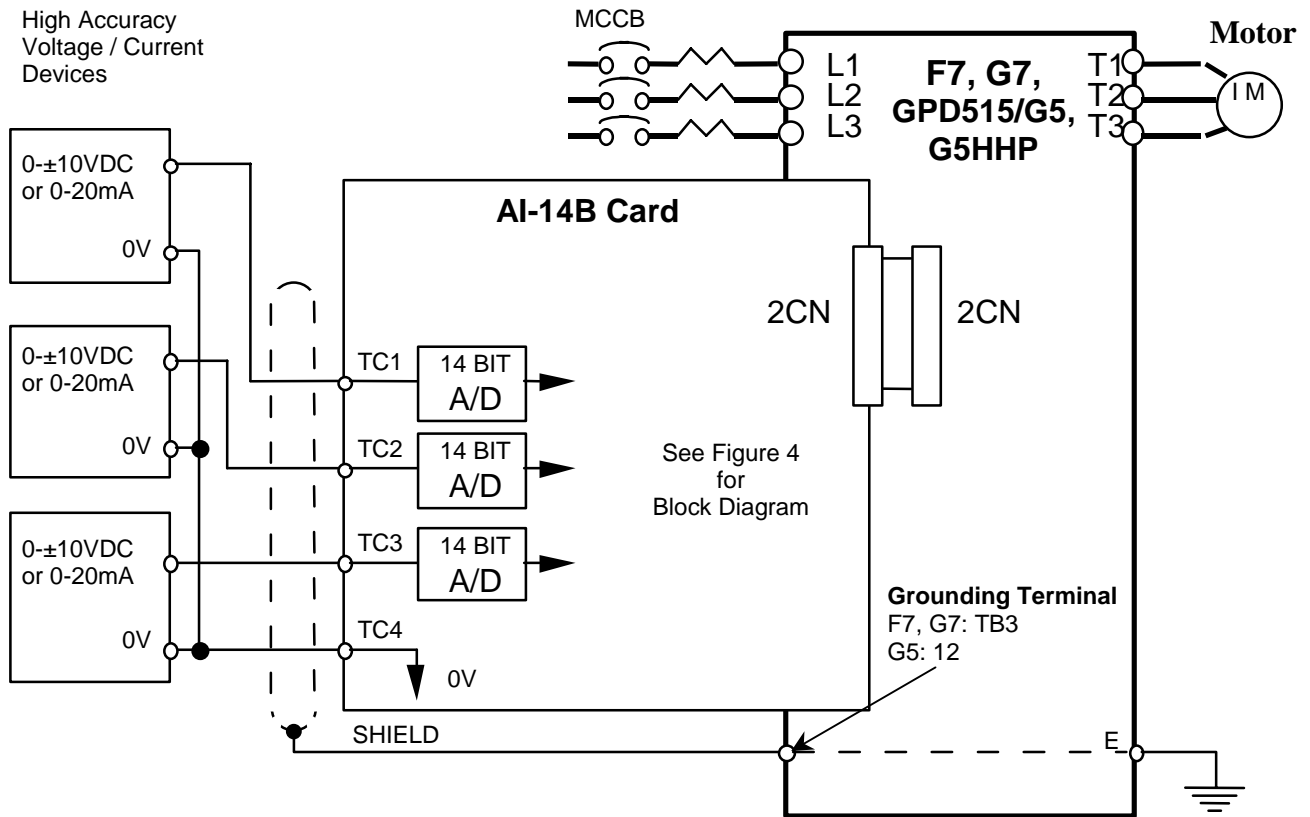

Figure 3. AI-14B Interconnection Diagram
6. **Wiring:** Refer to Figure 3 and Tables 1 & 2. Make wire connections between the AI-14B card and the drive as well as all peripheral devices. Observe the following: